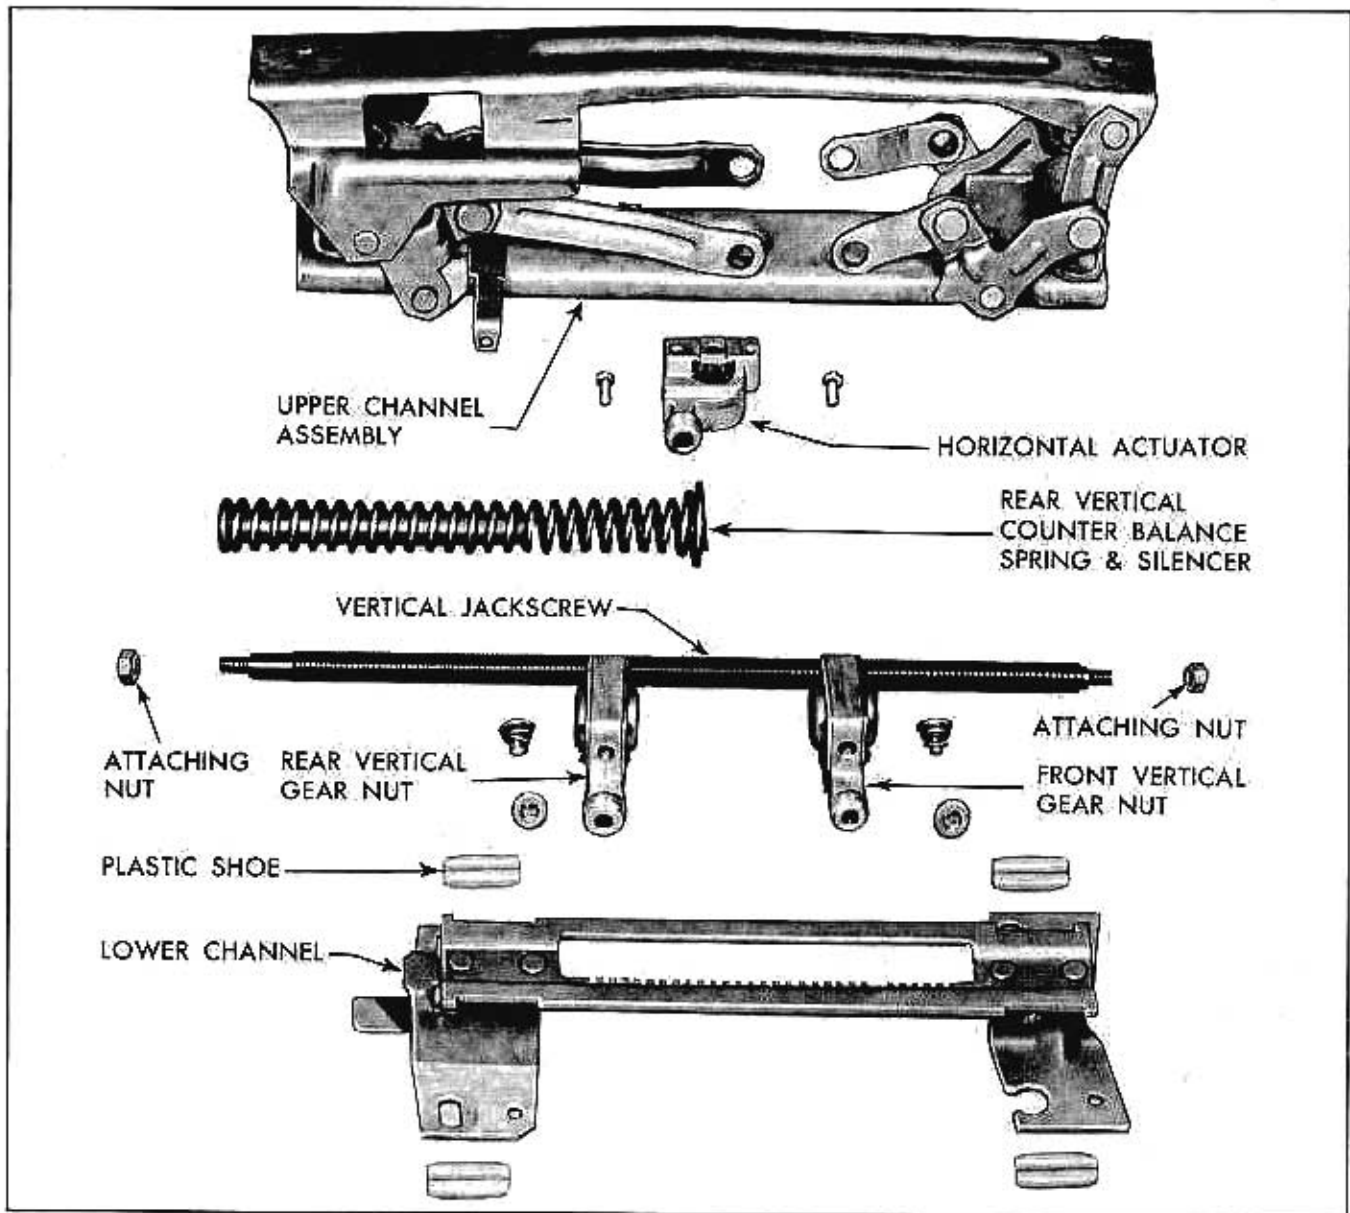

Fig. 5-4 Six-Way Seat Adjuster Assembly
5. Remove jackscrew front and rear attaching nuts (Fig. 5-4). Lift front end of jackscrew sufficiently to disengage from support; then disengage rear end of jackscrew from support and remove jackscrew, gear nuts and spring assembly from adjuster. Spring and
spring silencer may now be removed from jackscrew. (Fig. 5-4)
3. Slide seat adjuster lower channel from upper channel and, if required, remove plastic shoes from lower channel track. (Fig. 5-4)